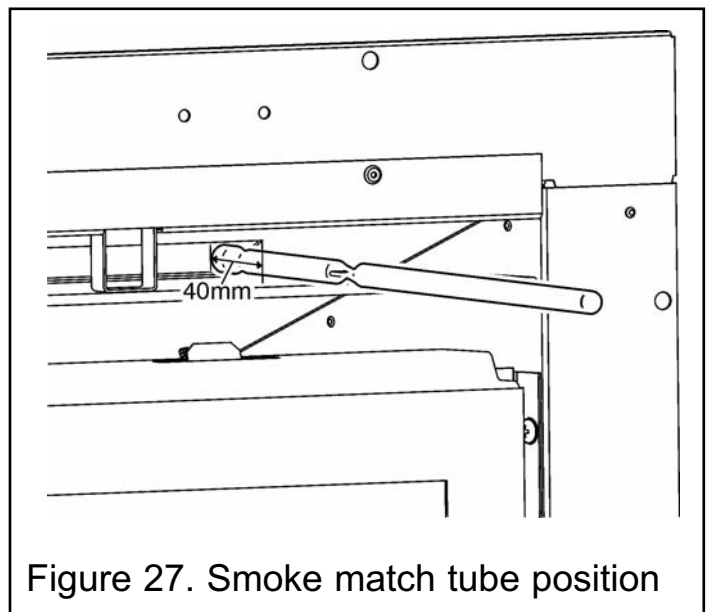

Figure 27. Smoke match tube position
4. At the top of the heater are two openings. The upper opening has a tapered rear that has an opening of its own. The smoke match should be placed horizontally into this opening so that it touches the right hand side of the opening. It should pass the upper part of the opening by 40mm (See figure 27).